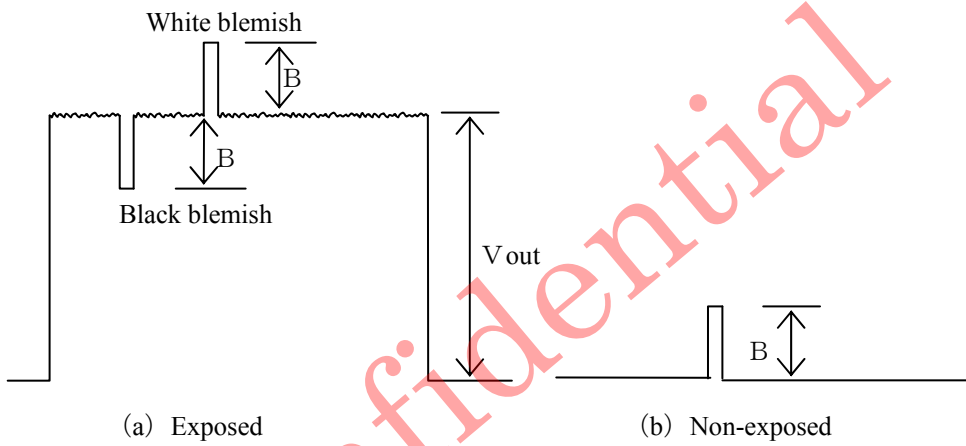

fig. 9-1 Definition of blemish level
- B : Blemish level defined in fig.9-1